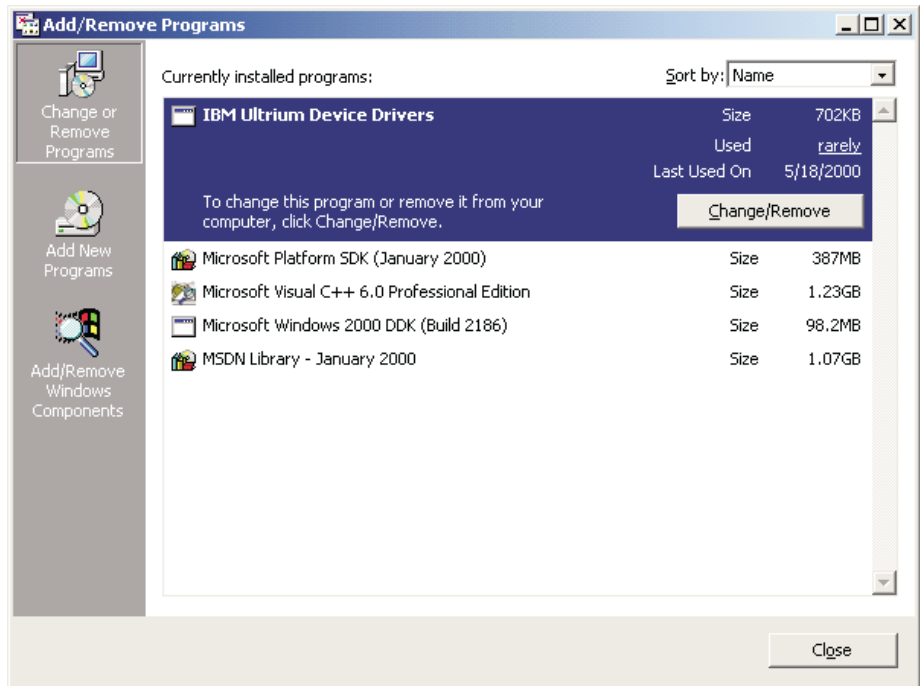

Figure 43. Add/Remove Programs Menu
8. Select **IBM Ultrium Device Drivers**, then click **Change/Remove**. See Figure 43.